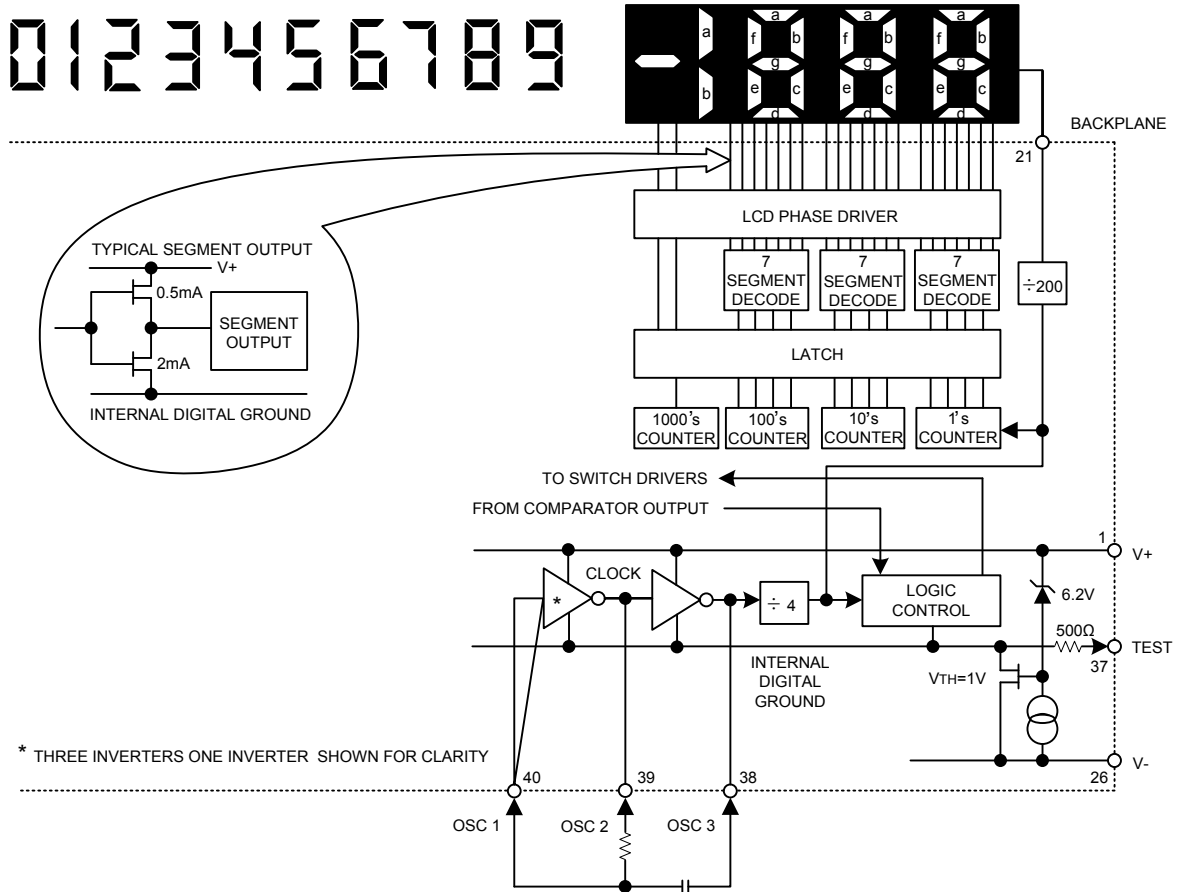

Figure 5. Digital Section
Figure 5 show the digital section for the UTC 7106, respectively. In the UTC 7106, an internal digital ground is generated from a 6V Zener diode and a large P-Channel source follower. This supply is made stiff to absorb the relative large capacitive currents when the back plane(BP) voltage is switched. The BP frequency is the clock frequency divided by 800. For three readings/sec, this is a 60Hz square wave with a nominal amplitude of 5V. The segments are driven at the same frequency and amplitude and are in phase with BP when OFF, but out of phase when ON. In all cases negligible DC voltage exists across the segments.